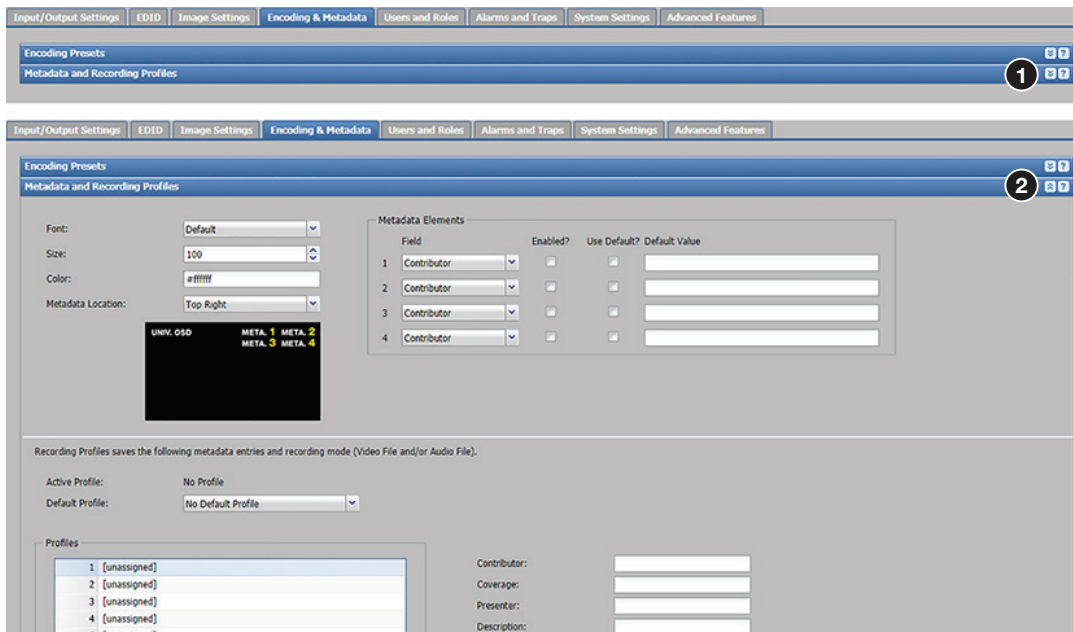

Figure 12. Collapsed and Expanded Panels
Click the blue panel name bar or the **Expand** arrow button (see figure 12, ①) on the right side of a panel. The panel opens to a full view, or as much as possible with the current display settings.